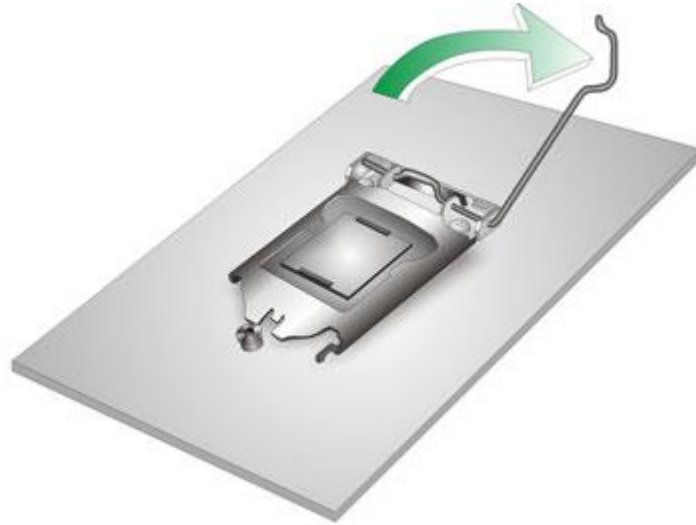

Figure 4-3: Disengage The CPU Socket Load Lever
Step 5: Disengage the load lever by pressing the lever down and slightly outward to clear the retention tab. Fully open the lever. See **Figure 4-3**.